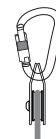

Figure 2
(2) Use the figure 2 type carabiner to connect the main attachment point.